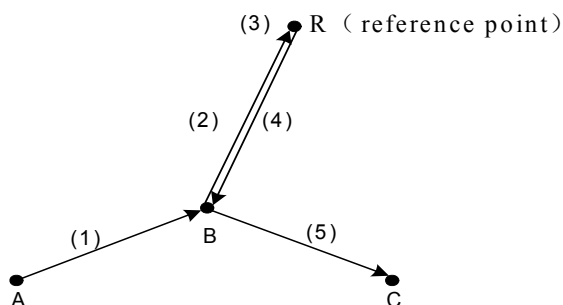

Fig. 4-3-1-1
1. The action of block G28 can be divided as follows: (refer to Fig.4-3-1-1):